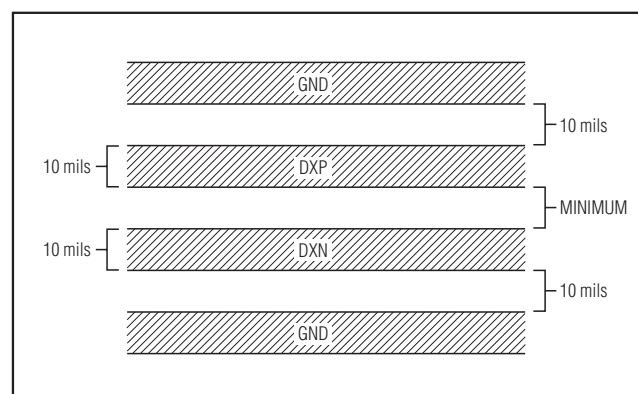

Figure 5. Recommended DXP-DXN PCB Traces
- 3) Route the DXP and DXN traces in parallel and in close proximity to each other. Each parallel pair of traces should go to a remote diode. Route these traces away from any higher voltage traces, such as +12VDC. Leakage currents from PCB contamination must be dealt with carefully since a 20MΩ leakage path from DXP to ground causes about +1°C error. If high-voltage traces are unavoidable, connect guard traces to GND on either side of the DXP-DXN traces (Figure 5).